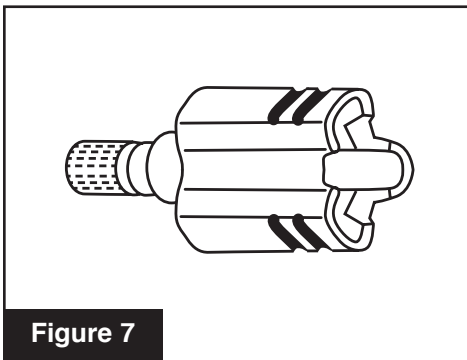

Figure 7
*If the inner CV joint looks like **Figure 7**:*